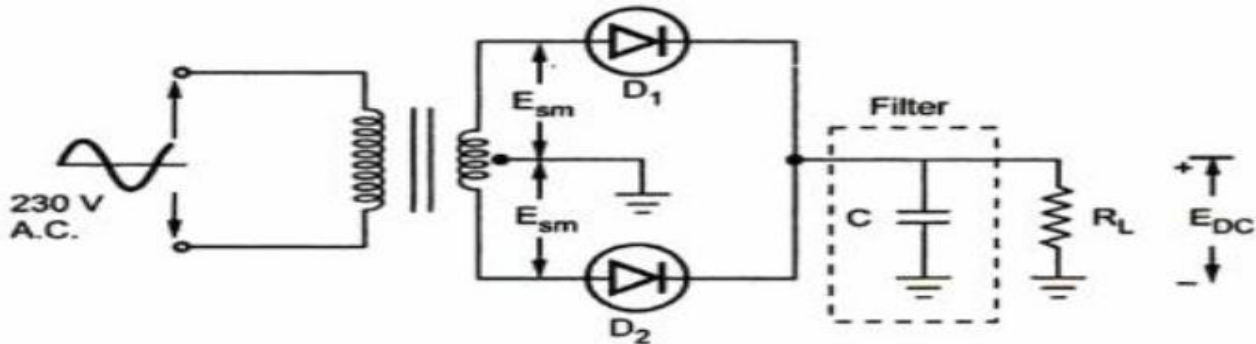

Fig. 1.39 Capacitor input filter with Full wave rectifier
- The capacitor filter used in full wave rectifier circuit as shown in the Fig. 1.39.